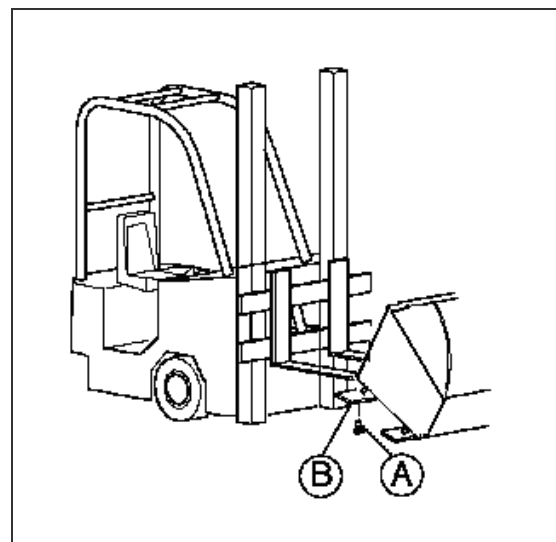

Fig. 2
- Unscrew the bolts which hold the rails to the bottom frame structure (fig.2 pos.A) and remove the rails from the supporting structure (fig.2 pos.B).